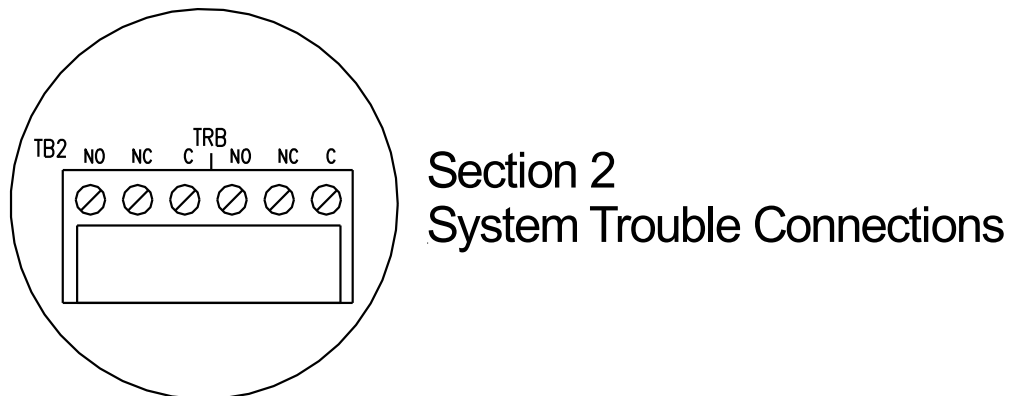

**Figure 4-11 Alarm Connections**
The location of the Alarm Output Connections (TB1) is shown in Figure 4-1. A magnified view of this area on the motherboard is shown in Figure 4-11.
- For terminal connection details of the Alarm Status output contact (shown in the non-alarm mode), see Figure 4-11.